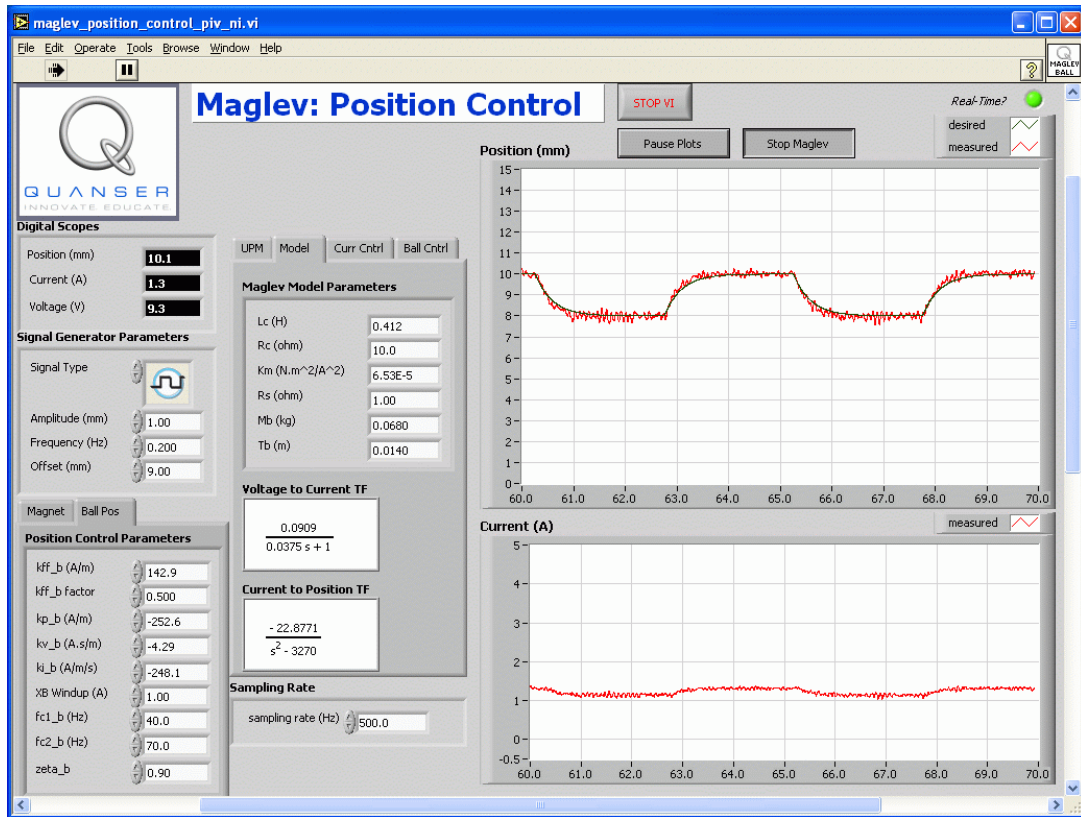

Figure 11 Response of ball position in Maglev tracking a setpoint.
- Step 21. Once it is stabilized about the 9 mm setpoint, gradually increase the *Amplitude (mm)* to 1 mm. As depicted in Figure 11, the red measured position should now be tracking the blue setpoint.